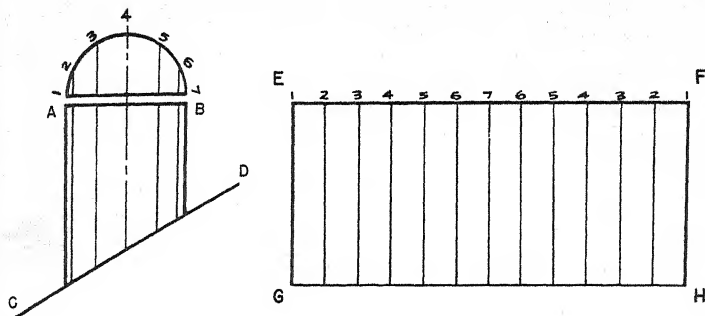

Figure 252. — Development of layout for intersected pipe.
3. Set your straightedge at right angles to the center line, and using it as a base line, draw lines parallel to the center line by the method illustrated earlier in figure 219. The parallel lines must be drawn from the points where the arcs intersect the circumference of the half plan to the miter line (see figure 252).
Whichever method you use, you'll come out with the same stretchout, if you are careful in your measurements. Try both methods and make a habit of using the one which comes easiest to you. To develop your pattern by use of the dividers, follow these step-by-step instructions, working from figure 252: